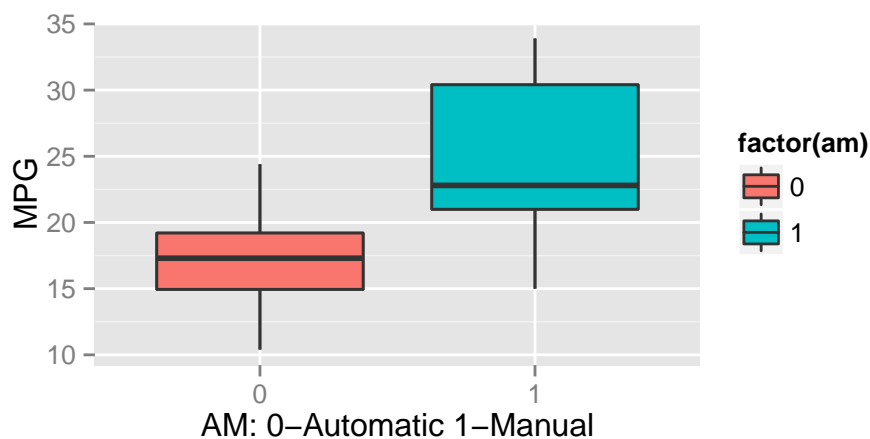

Figure 2 Pairs graph
- b) Determining the variables that are close correlated by using calculations assisted by a “pairs” graph (refer to Appendix fig 2)
- b) However, the calculations show that there are higher correlation with the variables wt, disp, cyl and hp. Figure 2 - ‘pairs’ revealed such correaltion and supports argument 1. Further analysis to these variables must be then performed to answer the questions.